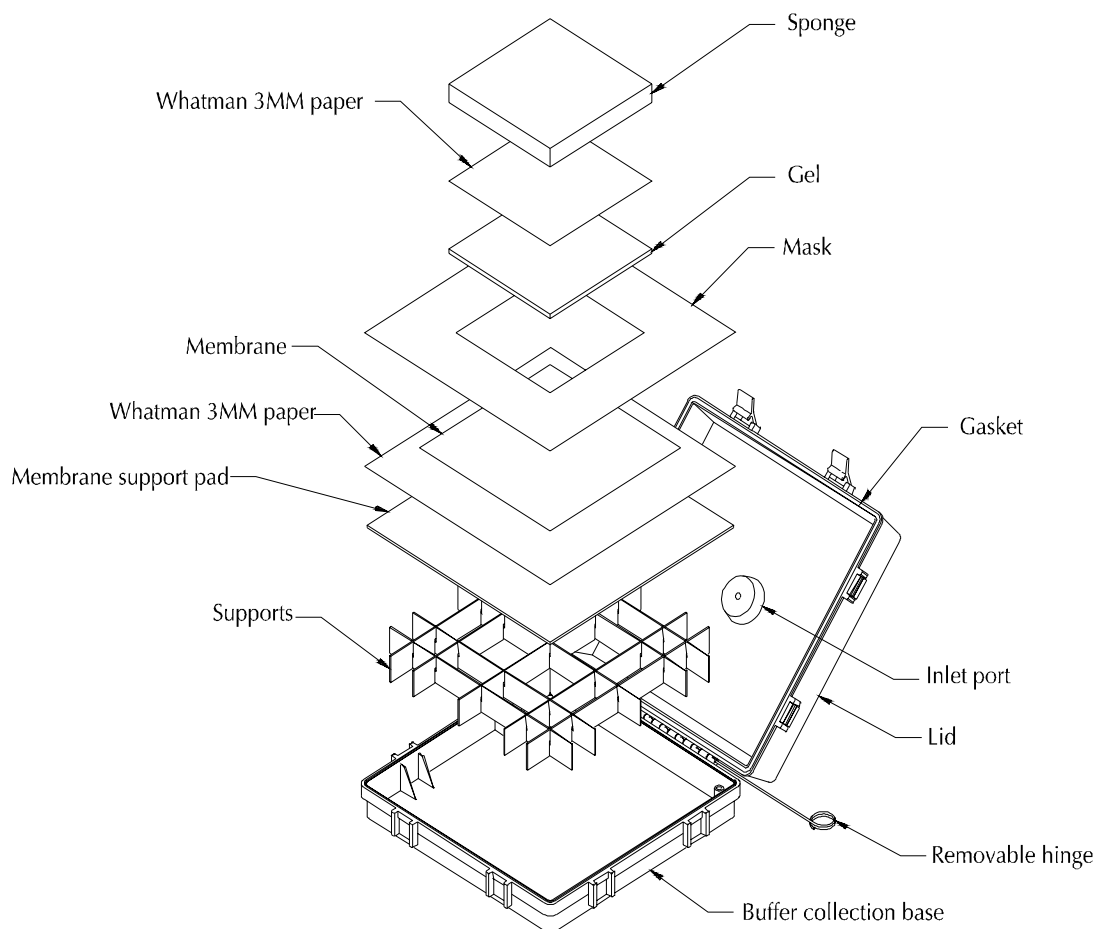

FIGURE 1 Diagram of the PosiBlot® 30-30 pressure blotter.
1. The cellulose sponge (see Figure 1) serves as a buffer reservoir and is shipped desiccated and compressed. To prepare the sponge for use, trim if necessary (before soaking) to a final size of 1.5–2 cm larger than the gel on all four sides. This will keep the required volume of the transfer buffer to a minimum. Soak the sponge in a tray of water for about 5 minutes. Once the sponge is fully rehydrated, wring out the water before saturating with buffer (see step 7 in *Assembling the PosiBlot® 30-30 Pressure Blotter*). This rehydration procedure does not have to be repeated.
2. Carefully cut out a rectangular window in the plastic mask (see Figure 1) that is slightly smaller than the area of the gel that will be subjected to the pressure gradient. This window should be smaller than the rectangle by at least 0.3 cm on all four sides. When cutting the window, make a smooth, continuous cut. Round the corners and avoid "rough edges." The windowed mask can be reused for blotting gels with similar dimensions.
1. Place the porous membrane support pad with the smooth side down on the supports in the buffer collection base (see Figure 1).
3. Wearing gloves, place the membrane soaked in the transfer buffer on top of the Whatman 3MM paper (see Figure 1). Smooth out the membrane so that no wrinkles or air bubbles are present.
6. Quickly wet the other precut Whatman 3MM paper in the transfer buffer and lay the paper on the gel (see Figure 1). Push out any trapped air bubbles.